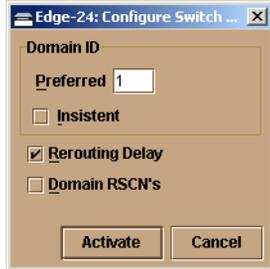

Figure 2–33: Configure Switch Parameters dialog box
2. At the **Hardware View**, select **Configure > Operating Parameters > Switch Parameters**. The **Configure Switch Parameters** dialog box displays, as shown in Figure 2–33.